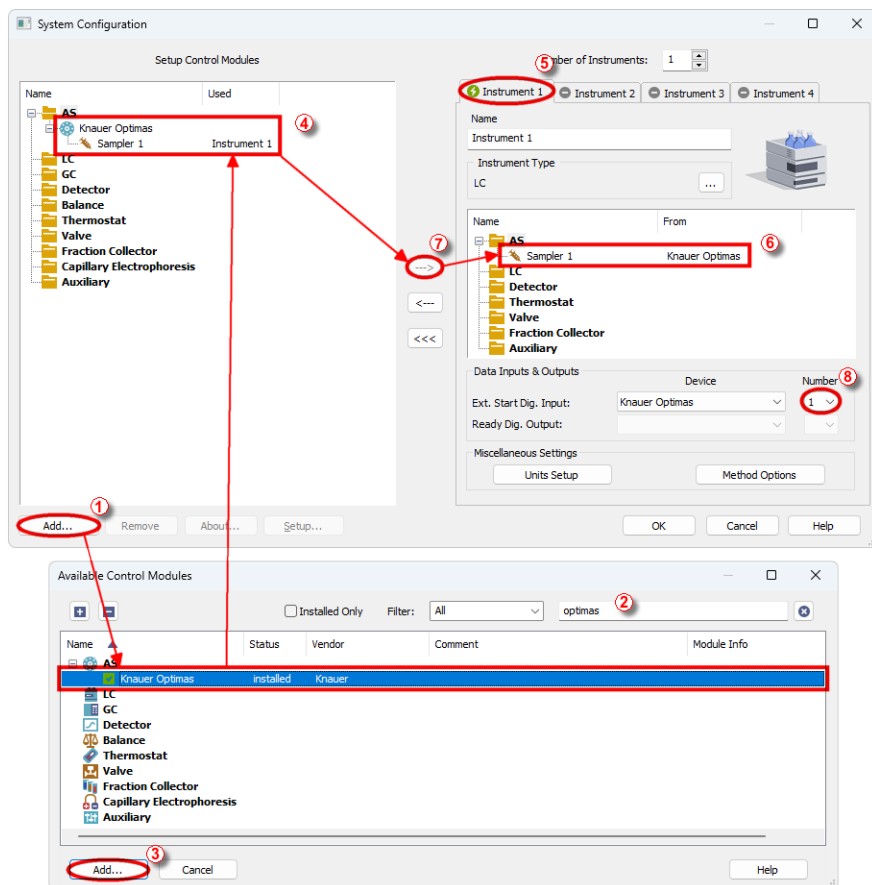

Fig. 4: System Configuration
- Press the **Add** button ① (see **Fig. 4** on pg. 7.) to invoke the **Available Control Modules** dialog.
- You can specify the searching filter ② to simplify the finding of the driver.
- Select the **Optimas** sampler and press the **Add** ③ button.